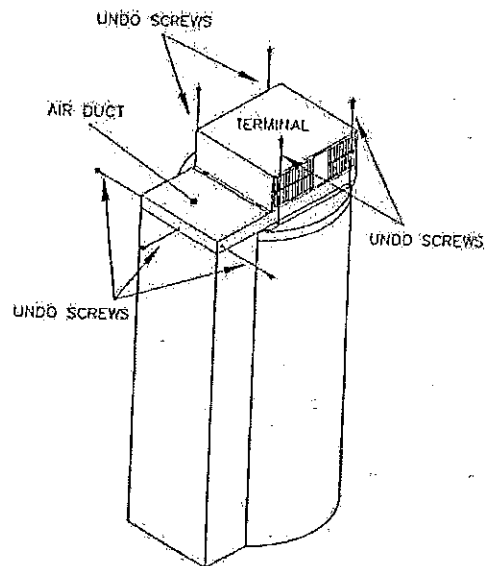

Fig. 1 – Removing the Flue Terminal & Air Duct Assembly
1. Remove the 7 screws holding the black terminal and air duct assembly to the water heater (keep these screws for re-assembly) (see fig 1)